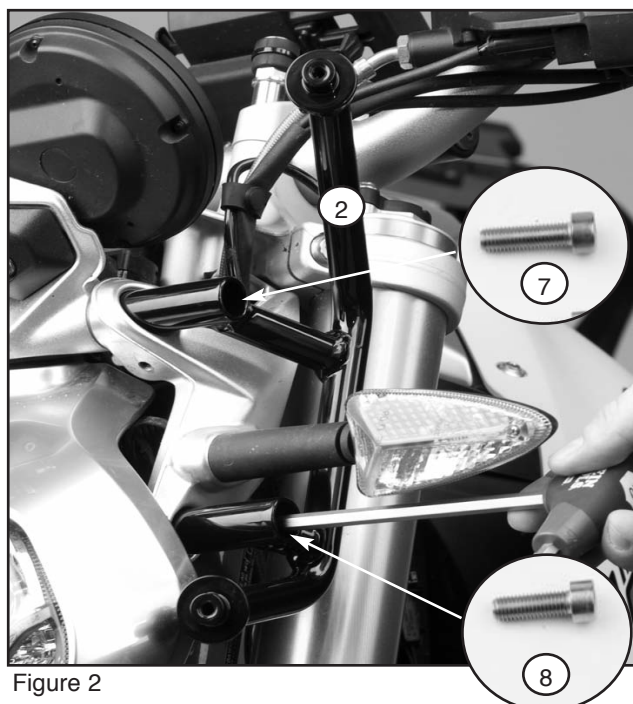

Figure 2
2. Use a M8 x 30 Screw (7) from Bag#1211 to install the Bracket (2) at the Upper hole of the turn signal bracket. **(6mm Hex Key Wrench) Figure 2**
3. Use a M8 x 25 Screw (8) to mount the bracket (2) to the turn signal bracket at the lower hole. **(6mm Hex Key Wrench) Figure 2**